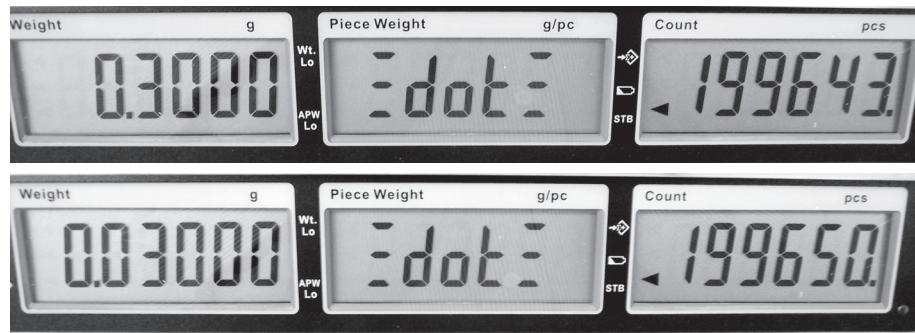

Figure A-6. Selecting Decimal Point Displays.
3. Press **Tare** to accept setting and advance. Figure A-6 illustrates two samples.